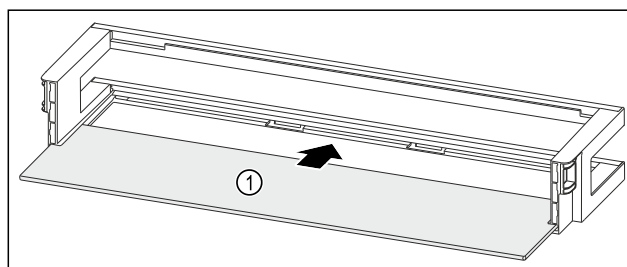

Fig. 133 Door rack with shelf
- ▶ Push the shelf Fig. 133 (1) into the side recesses.